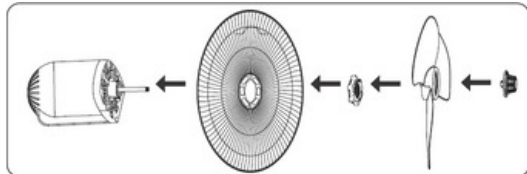

Fig. 3
3. Install the rear grille, plastic nut, blades and blade rotor onto the motor shaft and secure in place (Fig. 3).